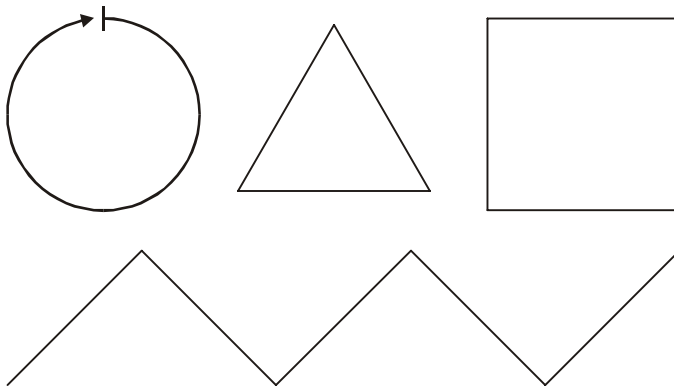

Figure 4-9
2. Figure 4-9 shows four simple obstacle courses. Write a program that will make your Boe-Bot navigate along each figure. Assume all straight line distances (including the diameter of the circle) can be either 1 yd or 1 m.